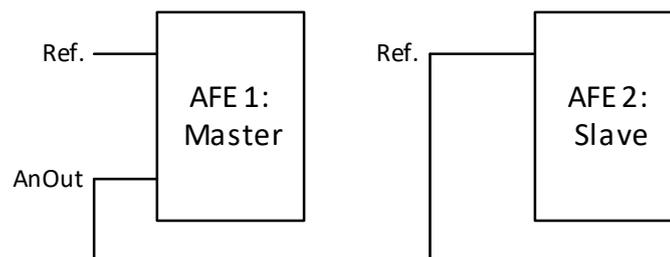

Fig. 11-8 AFE Master/Slave configuration
- a reference signal for the next AFE in a Master/Slave configuration (see Fig. 11-8).